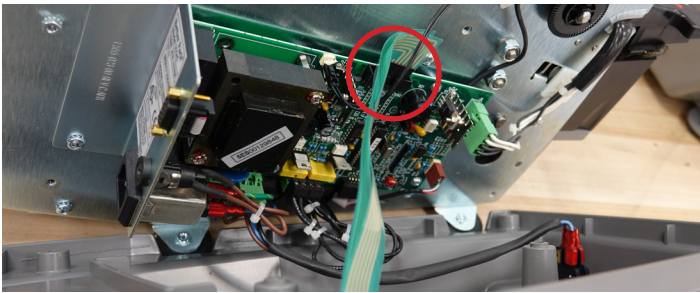

Figure 15-2
4. Remove the keypad ribbons (Figure 15-2)